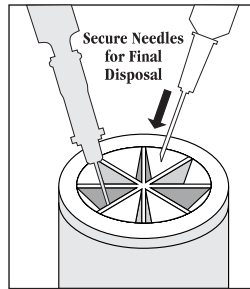

Fig. 2
4. Perform skin wheal with desired needle (25 Ga. or 22 Ga. needle). In kits where provided, a SharpsAwayII™ Locking Disposal Cup is used for the disposal of needles. Firmly push the needles into the disposal cup holes (refer to Fig. 2). Once placed into the disposal cup, the needles will be automatically locked in place so that they can not be reused. Discard the entire cup at completion of the procedure. **Precaution:** Do not attempt to remove needles that have been placed into cup. These needles are permanently locked in place. Damage may occur to the needle if it is forced out of the disposal cup.